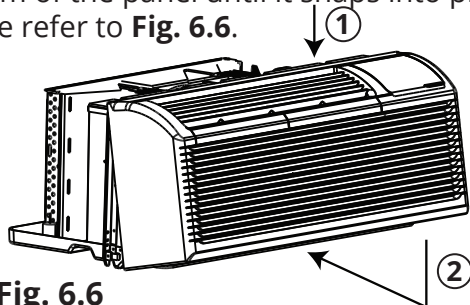

Fig. 6.6
7. Using the image below as a guide, reinstall the front panel by first placing the tabs of the panel over the top rail of the unit. Second, push inward at the bottom of the panel until it snaps into place. Please refer to **Fig. 6.6**.